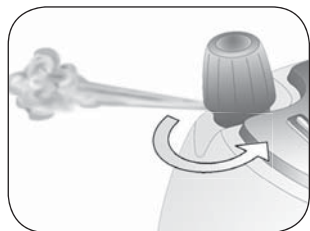

Fig. 8
- 1 Press the button (L) to turn off the boiler.
- 3 Press the steam button (D) and let all the steam come out.
- 4 Switch off the iron pressing the button (O) and unplug the power cord from the power outlet.
- 6 Unscrew the boiler cap (B) counterclockwise. Before unscrewing it completely, wait that the remaining steam whistle stops (Fig 8).
- 1 Turn off the boiler by pressing the switch (L).
- 3 Press the steam button (D) to remove the residual pressure in the boiler.
- 4 Press the switch (O) to turn off the appliance.
- 7 Very carefully unscrew the cap of the boiler (B) and before unscrewing it completely wait until any sound of escaping steam has stopped (Fig. 8).